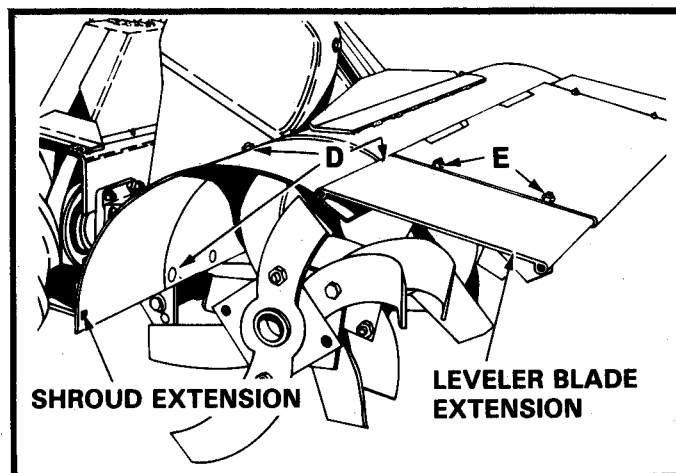

FIGURE 14
4. Attach shroud extension to shroud, Figure 14. Secure with three 5/16" x 1/2" carriage bolts and locknuts at "D".
5. Attach leveler blade extension to leveler blade as shown in Figure 14. Secure with two 5/16" x 1/2" carriage bolts and locknuts at "E".